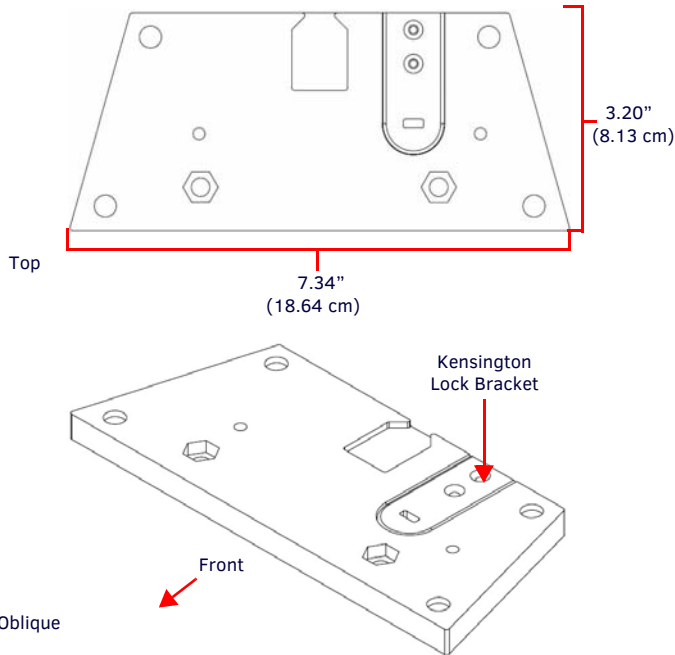
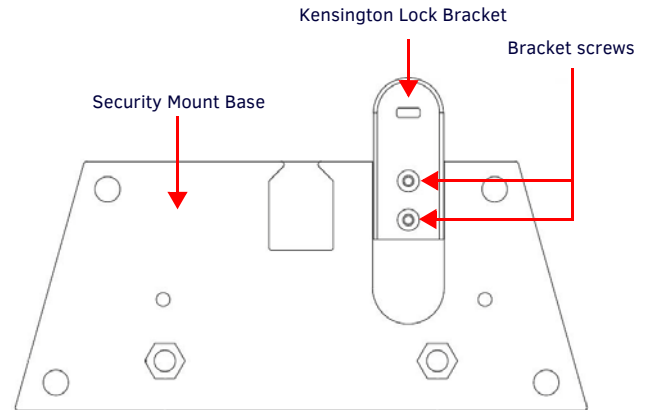

FIG. 1 MSA-STMK-07 SECURE TABLE MOUNT KIT
FIG. 6 KENSINGTON LOCK BRACKET INSTALLATION
The MSA-STMK-07 Secure Table Mount Kit (**FG2265-17**) is a beautifully styled plate that, when attached to the Modero S MST-701 7" Tabletop Touch Panel (**FG2265-06**) and secured with the under-table tamper-resistant bolts, will make it virtually theft-proof (FIG. 1). If drilling into the table is not feasible, the secure mounting plate can be attached to the touch panel (but not the table) and then secured with a Kensington® Lock. Both methods may be used simultaneously for extra security
- On the security mount base (FIG. 1), loosen the two screws holding the Kensington Lock bracket to the base (FIG. 6) and remove the bracket.
- Reverse the bracket in its slot so the rounded end faces outward (FIG. 6), and resecure it to the security mount base with the two bracket screws.